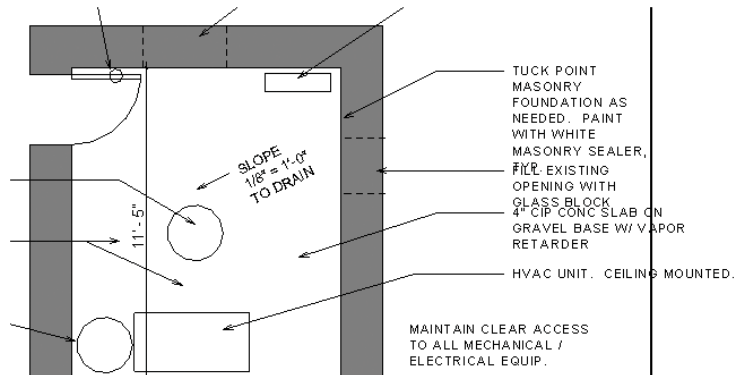

FIGURE 12.21 Text to be adjusted in the sheet view
10. With these dividing lines in place, some of the text annotations in the Basement view are crossing the dividing line onto the Level 1 floor plan you added to the sheet; see Figure 12.21.